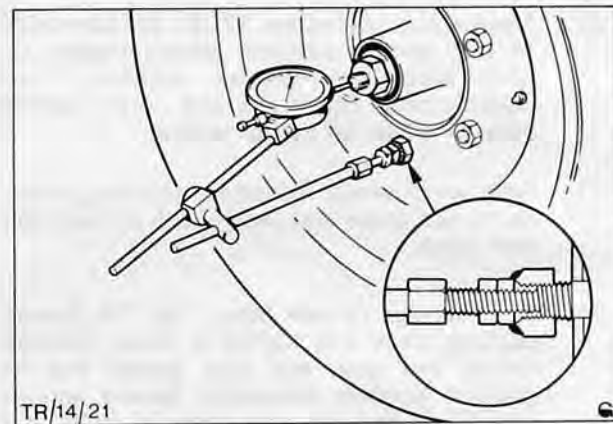

Fig. 21. Checking end float
33. The end float should be checked using a dial gauge fastened by a magnetic base or simple bracket fabricated from two nuts, and with the stylus of the gauge positioned against the wheel spindle, Fig. 21.